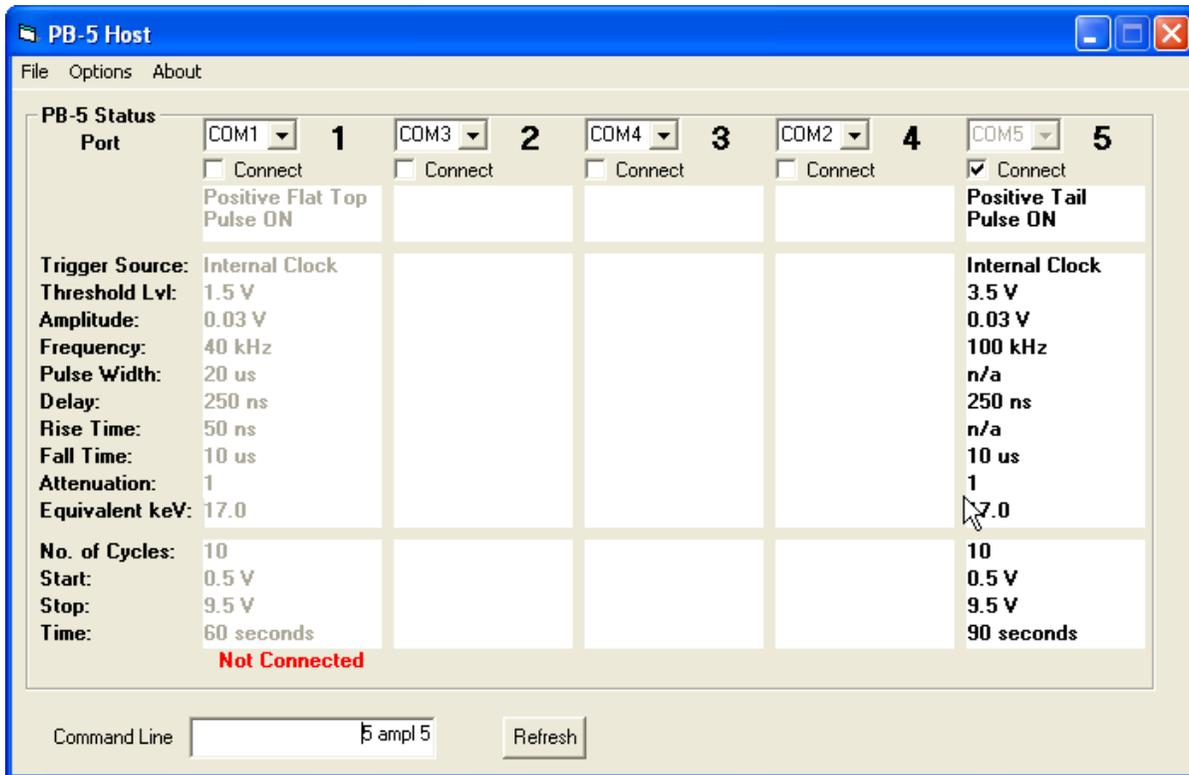

Figure 4. Multiple PB-5 view
- 7) If more than one Model PB-5 are connected, select the appropriate COM Port for each PB-5 Module (see Fig. 4)